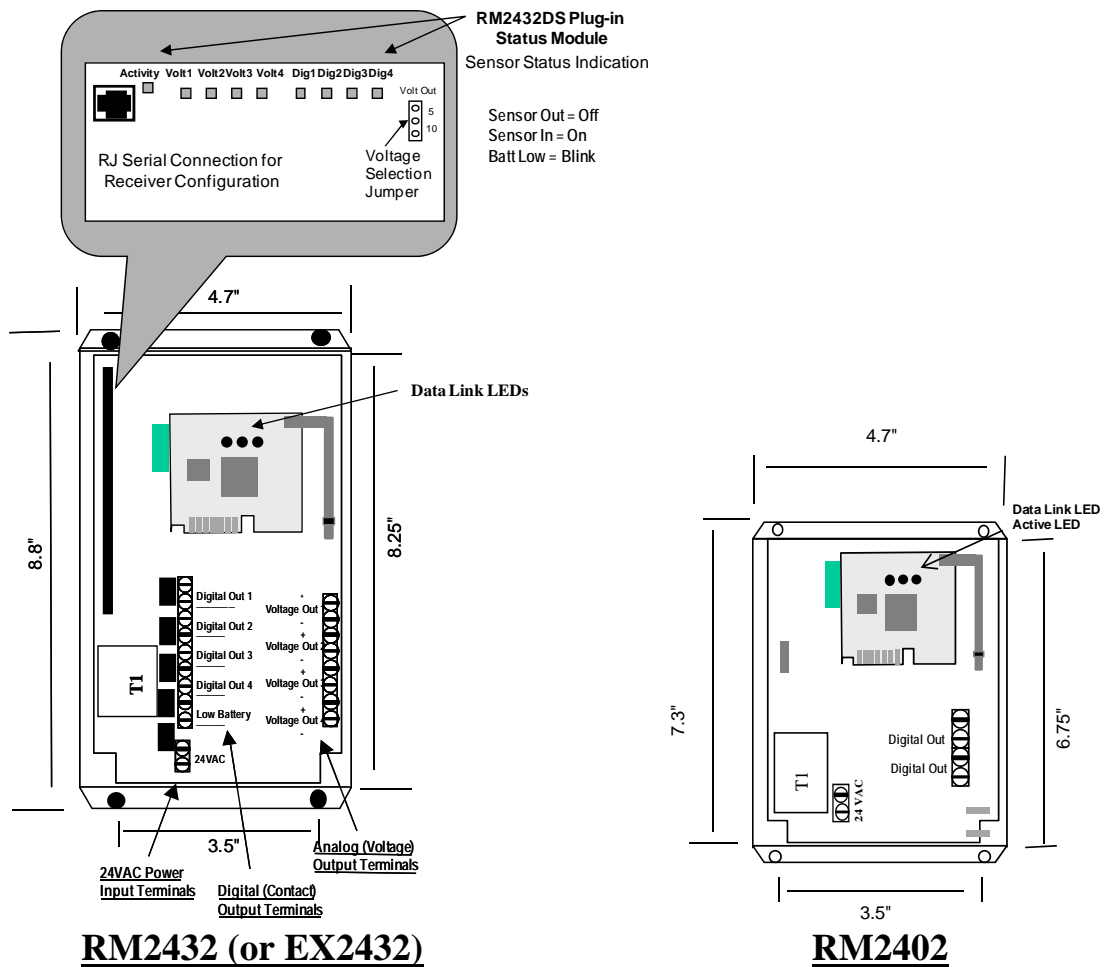

Figure 1
- Real time sensor status indication – See Figure 1
- Individual sensor low battery and lost sensor alarm indication – See Figure 1
- Connect the other end of the programming cable (RJ11 connector) to the RM2432 Circuit Board Connector (female RJ connector). See Figure 1 above for location.